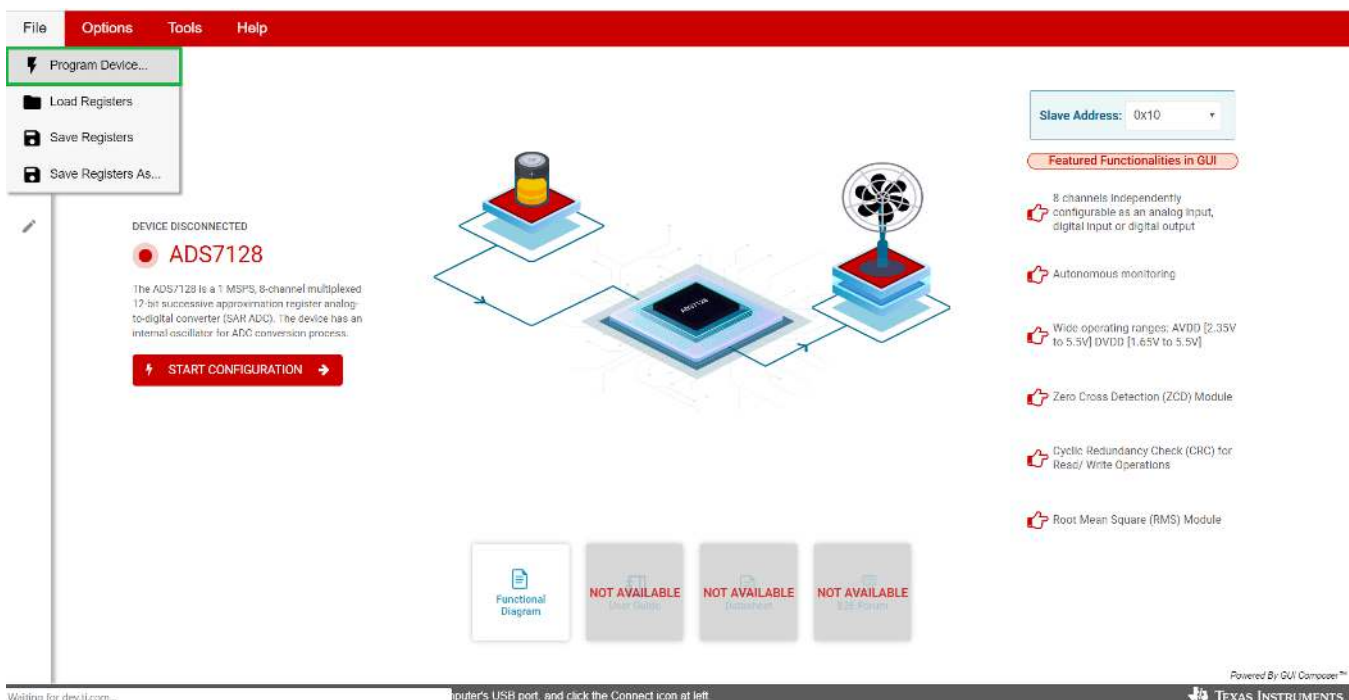
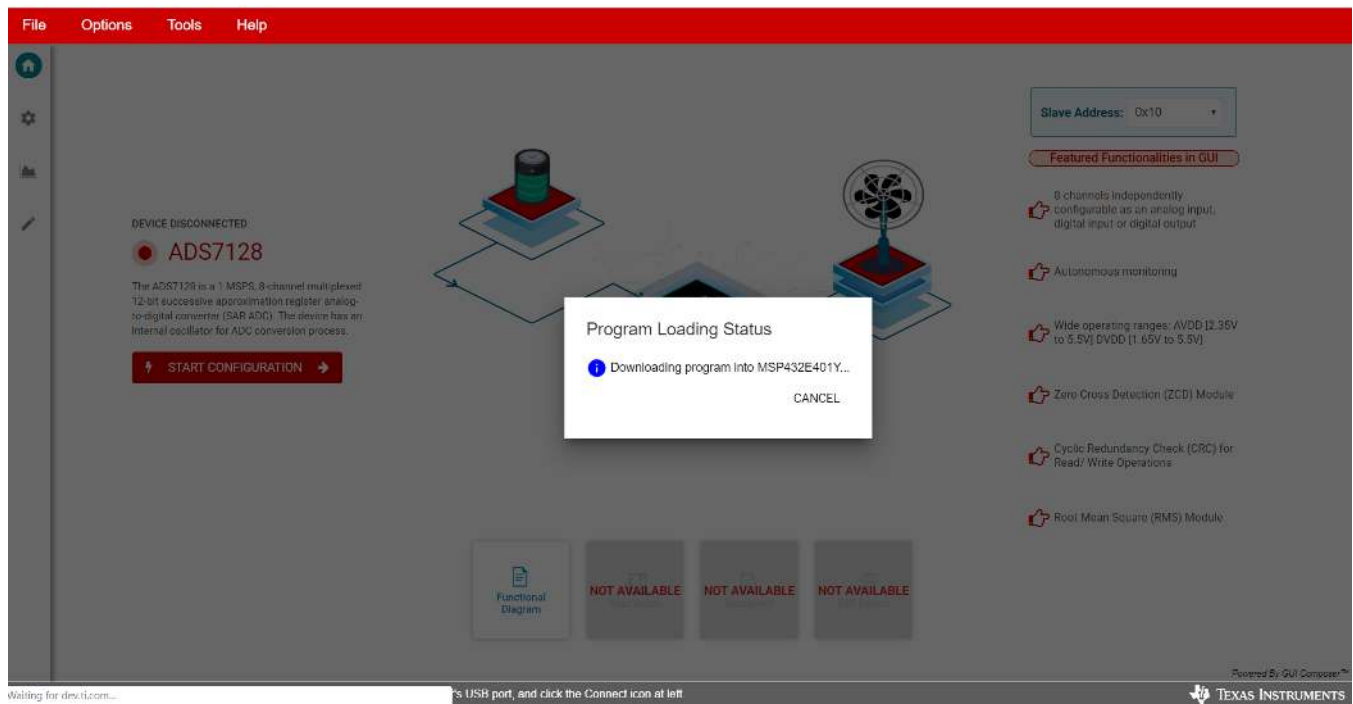

Figure 6. UNIFLASH Programming Set-Up
Figure 7. FLASH Programming LaunchPad™
3. As shown in Figure 6, after the BP-ADS7128 GUI has been set up, select *Program Device* from the *File* menu option. This selection automatically recognizes the MSP432E401Y LaunchPad™ and FLASH program, see Figure 7, to communicate with the BP-ADS7128.